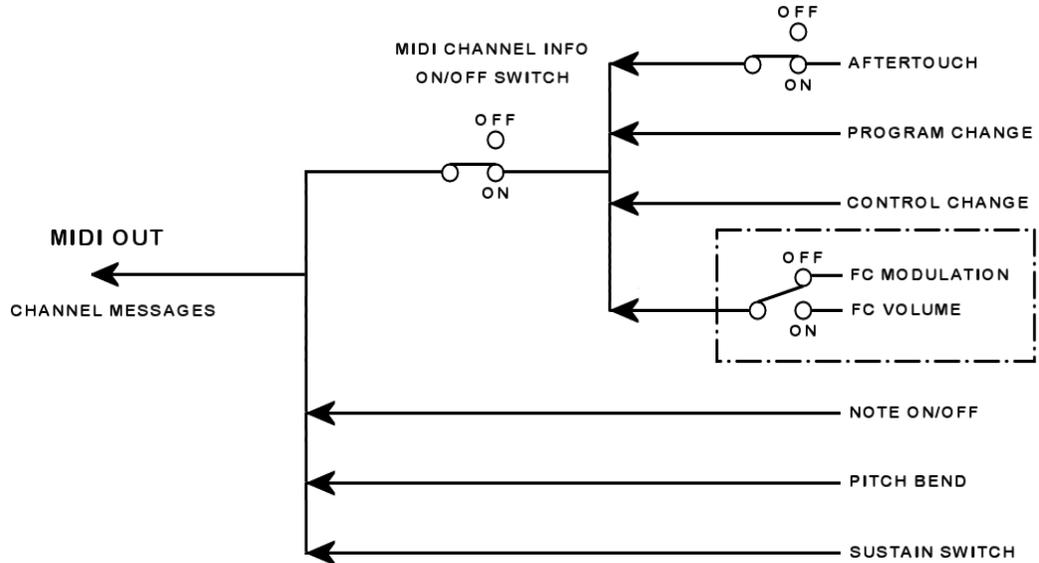

FIGURE 13A
Figures 13A and 13B show diagrams of the TRANSMIT and RECEIVE characteristics when the FC VOLUME INFORMATION FUNCTION is set to the “OFF” condition. The FC VOLUME INFORMATION FUNCTION is a TRANSMIT FUNCTION. In the “OFF” condition, the DX7 will TRANSMIT FOOT CONTROLLER (FC) MODULATION INFORMATION provided the MIDI CHANNEL INFORMATION FUNCTION is set to the “ON” condition. In the RECEIVE MODE, even with the FC VOLUME INFORMATION FUNCTION set to the “OFF” condition, the DX7 will still RECEIVE both FC MODULATION and VOLUME INFORMATION, once again, provided the MIDI CHANNEL INFORMATION FUNCTION is set to the “ON” condition.